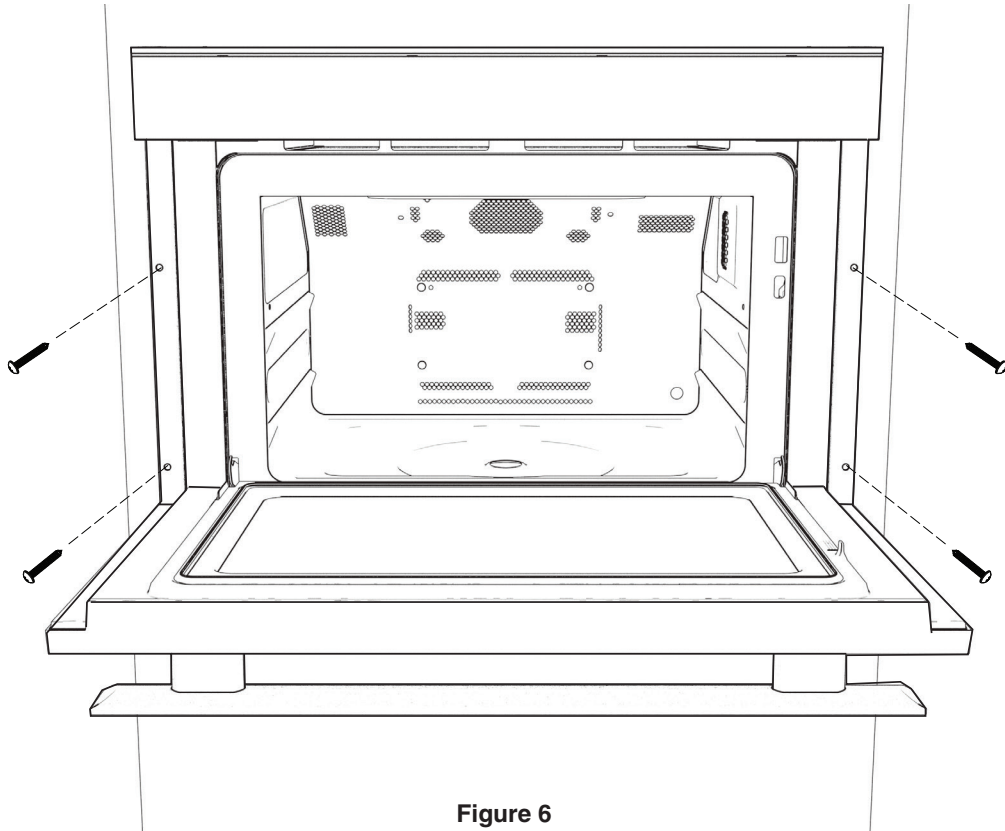

Figure 6
3. Slide the oven all the way until the mounting flange is flush with the face of the cabinet. See Figure 6.
4. Open the door. Using the 4 holes on the oven as a template, pre-drill the cabinet using a 1/16" bit. See Figure 6.
5. Secure the Smart Combi Steam Oven with the 4 screws supplied. See Figure 6.